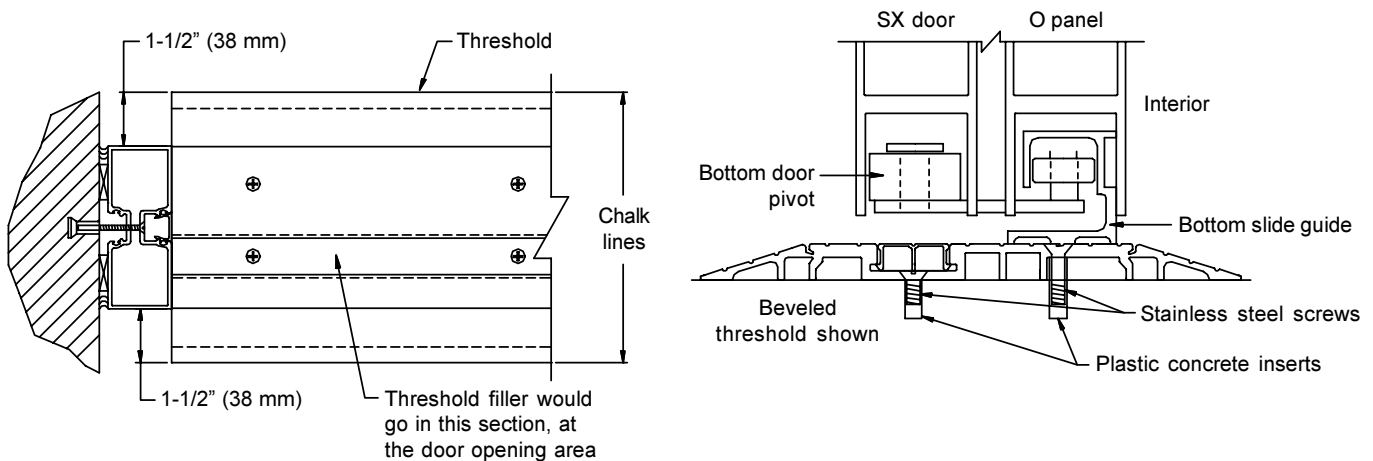

Figure 12. Installation of Threshold
1. After verifying that the floor is level, snap a chalk line 1-1/2" from the face of each jamb on both sides. Place the threshold between the jamb tubes within the chalk lines (**Figure 12**).